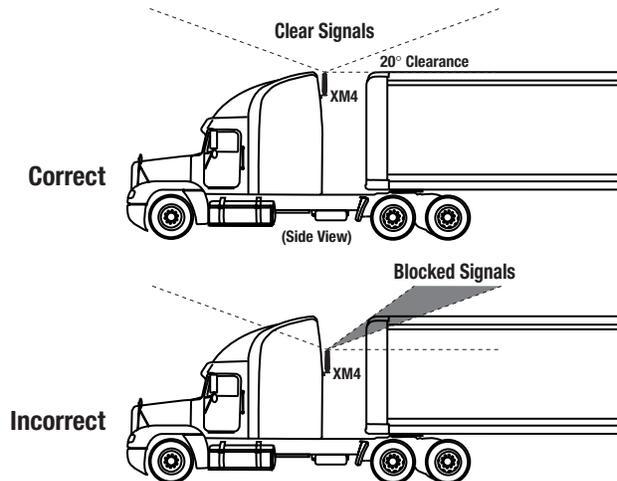

Figure 3. Correct and incorrect TERK XM4-CLIP locations on a long-haul truck.
- Also, at the proposed site, verify that there is at least a 20-degree clearance from any metallic obstruction on all sides, including any metal hardware and exhaust stacks, as shown in Figure 3 (on the next page).